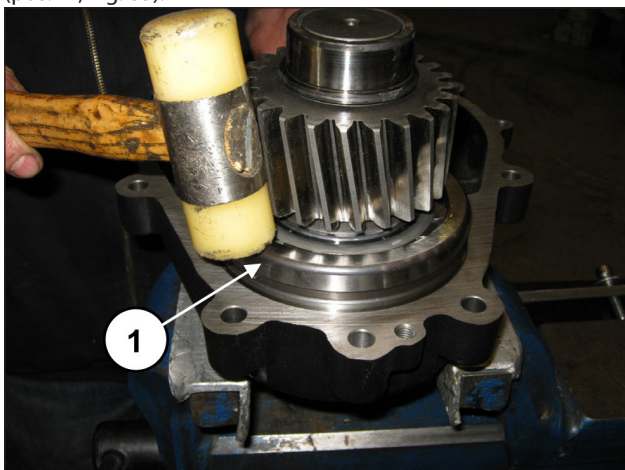

Fig. 85
Insert the pinion pre-assembled inside its housing in the reduction gear cover, with the aid of an extractor hammer (pos. ①, Fig. 85).